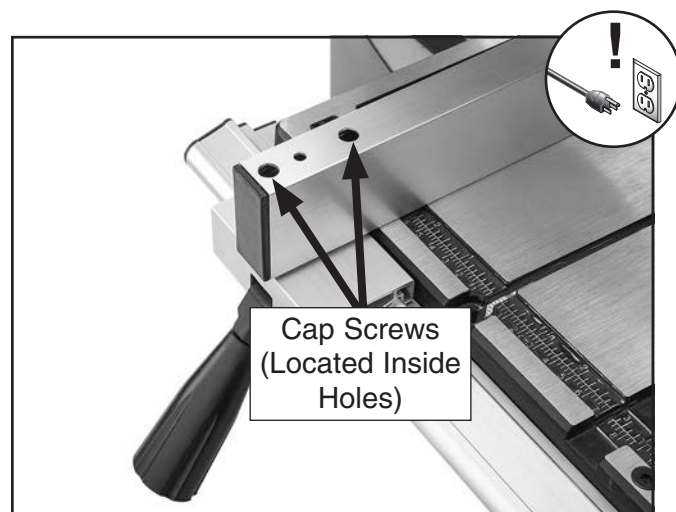

Figure 31. Location of the fence adjustment cap screws.
3. Loosen two fence adjustment cap screws shown in **Figure 31**, adjust fence parallel with miter slot, then re-tighten cap screws to secure setting.